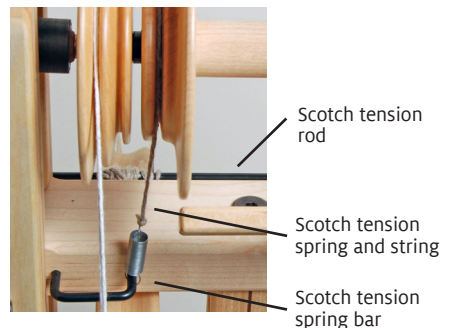

FIGURE 7: SET UP SCOTCH TENSION
- Install the Scotch tension spring-and string: Hook the spring on the Scotch tension spring bar on the left side of the MOA (Figure 7).
- Turn the Scotch tension rod to loosen or tighten tension (Figure 7).